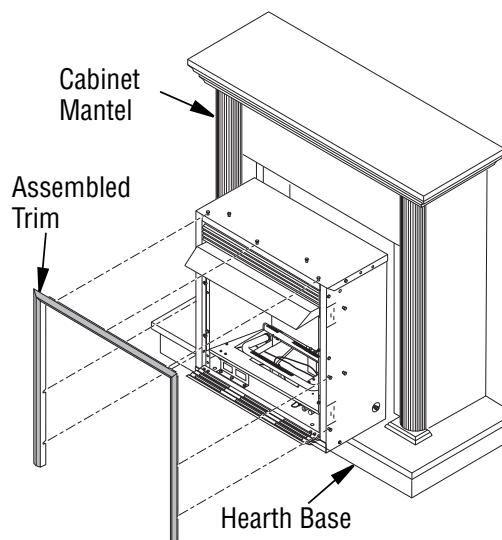

Figure 13 - Installing Fireplace into Mantel Assembly
10. Carefully insert fireplace into cabinet mantel (see **Figure 13**). Be careful not to scratch or damage hearth base or cabinet mantel.